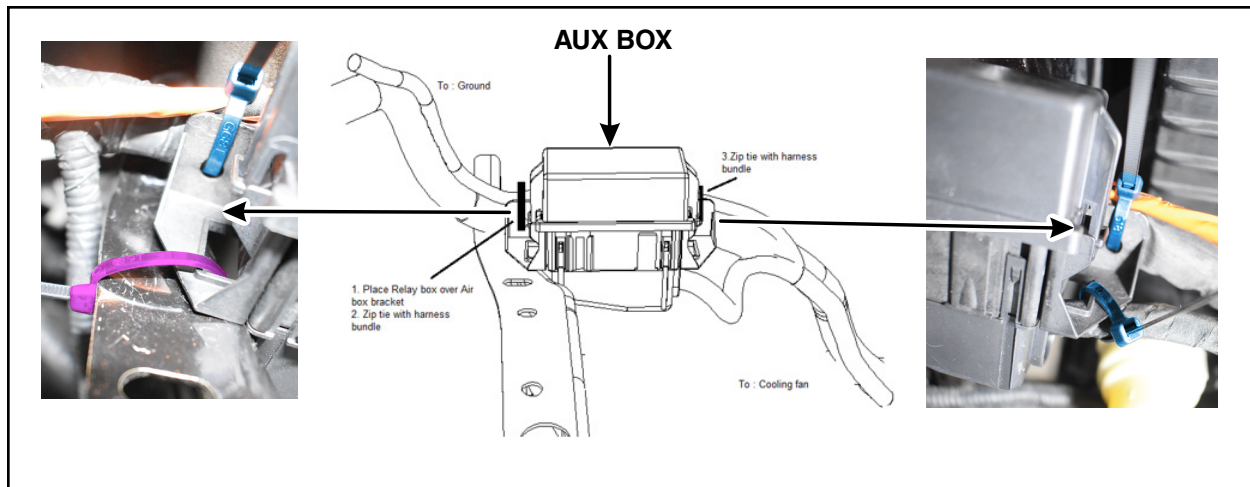

FIGURE 15
19. Secure the aux box to the vehicle over the air box bracket with 4 zip ties. See Figure 15.